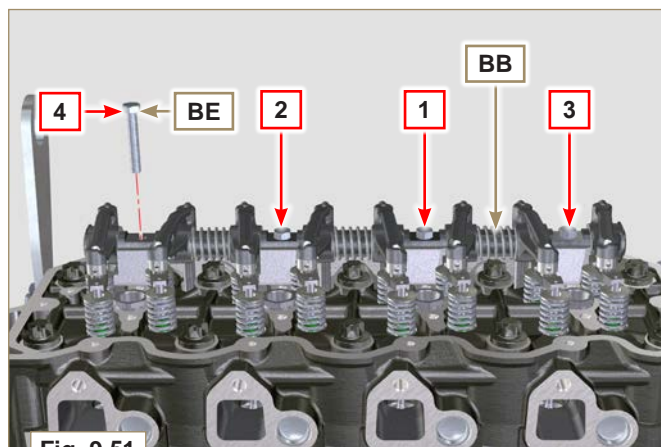

Fig. 9.51
- 3 - Secure the rocker arm pin **BB** tightening the screws **BE** (tightening torque to **40 Nm**). Adhere to the screw tightening sequence **BE** as shown in **Fig. 9.51**.